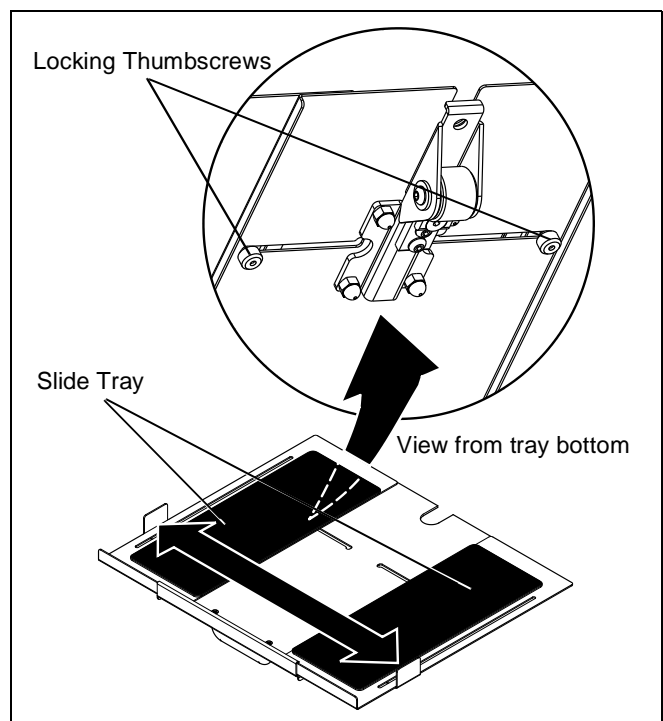

Figure 3
2. Pull Slide trays outward to fully open position. (See Figure 3)